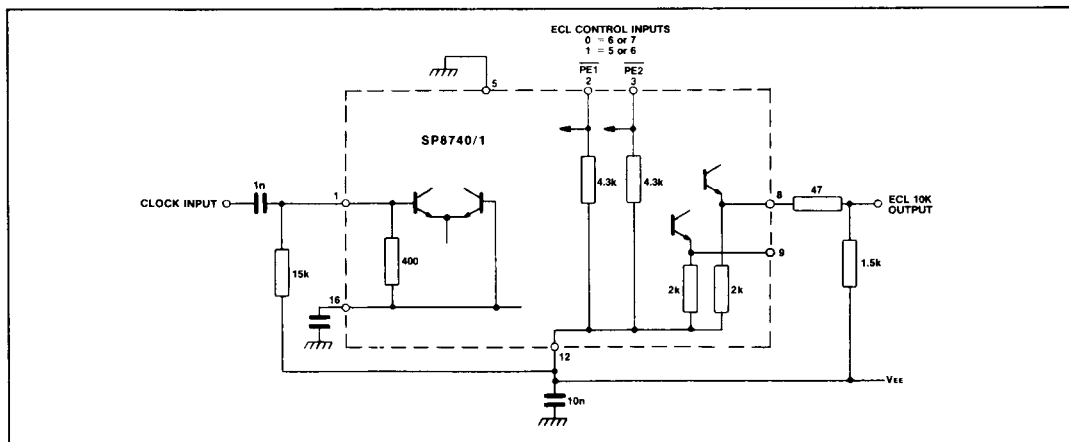

Fig.9 Typical applications circuit showing interfacing
4. The Q and \bar{Q} outputs are compatible with ECL II but can be interfaced to ECL 10K as shown in Fig. 9. There is an internal circuit equivalent to a load of 2k pulldown resistor at load output.